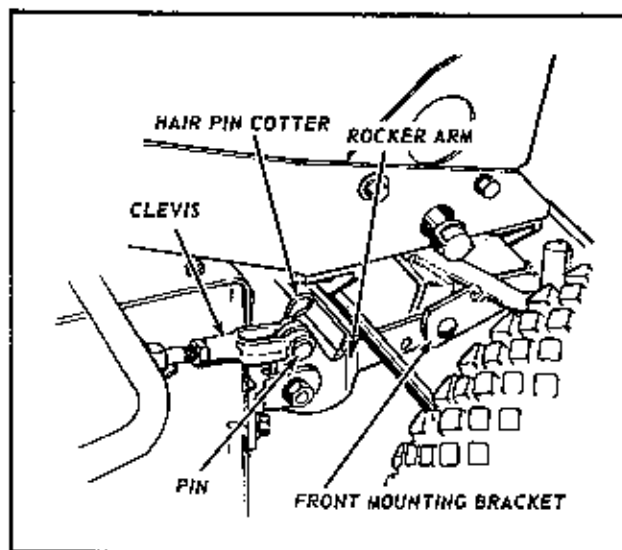

FIG. 2
2. Connect the rocker arms to front mounting brackets under the tractor, by using pins and hair pin cutters as shown in figure 2.